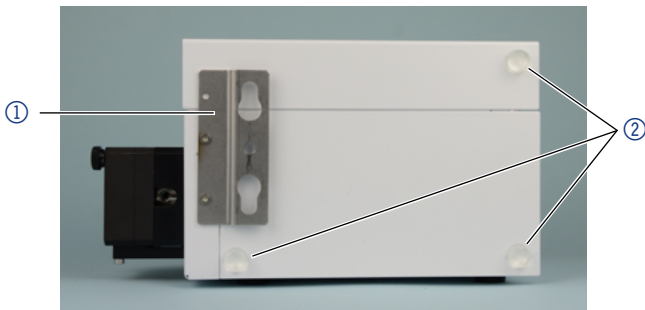
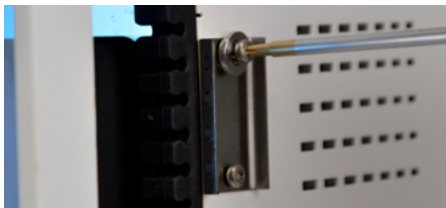

Fig. 28 AZURA® small device with mounting bracket ① and rubber spacers ② (exemplary picture with UVD 2.1S)
Fig. 29 Guidance clamp on AZURA® L device
- Put the upper keyhole of the mounting bracket onto the washer at the AZURA® L device (Fig. 28) and slide the valve drive down until the middle hole locks with the lower screw of the guidance clamp (Fig. 29).